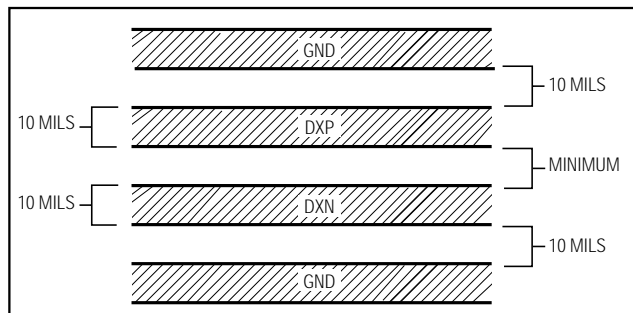

Figure 2. Recommended DXP/DXN PC Traces
- 4) Connect guard traces to GND on either side of the DXP-DXN traces (Figure 2). With guard traces in place, routing near high-voltage traces is no longer an issue.
- 7) Use wide traces. Narrow ones are more inductive and tend to pick up radiated noise. The 10 mil widths and spacings recommended in Figure 2 aren't absolutely necessary (as they offer only a minor improvement in leakage and noise), but try to use them where practical.